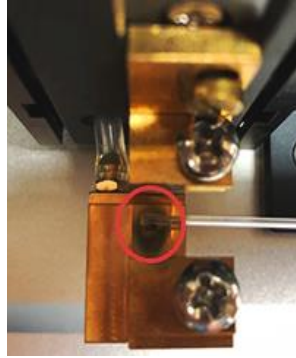

Figure 6-5
6) Clamp capillary glass in the right puller bar, and make left end of the glass in the middle between two brass jaws, as shown in Figure 6-5.